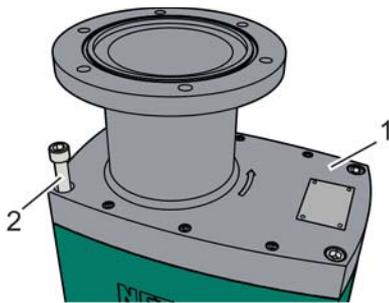

Fig. 69: Releasing the gear
1. ➤ Unscrew the attachment bolts (Fig. 69/2) at the corners of the gear (Fig. 69/1) and place to the side.